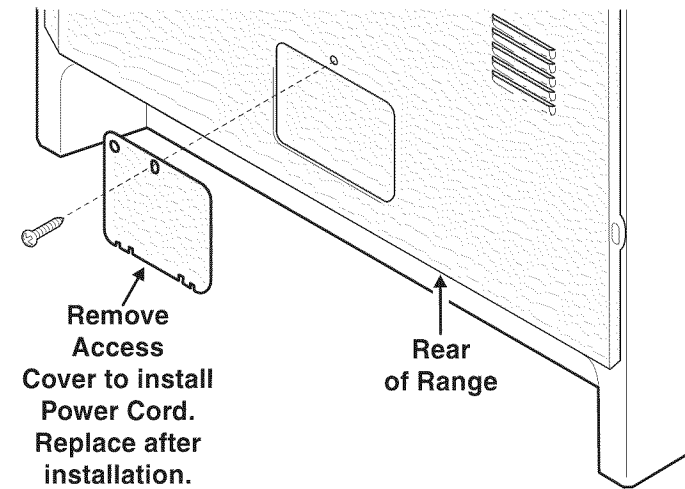

Fig. 25
The rear access cover must be removed. To remove, loosen center screw (one screw) and remove access cover. The terminal block will then be accessible (See Fig. 25).
5. Make sure all screws are tightened securely and replace the rear access cover (See Fig. 25).
3. Make sure all connections are tightened securely and replace the rear access cover (See Fig. 25).
5. **3 and 4 - Wire Permanent Connections** - Make sure all connections are tightened securely and replace the rear access cover (See Fig. 25).